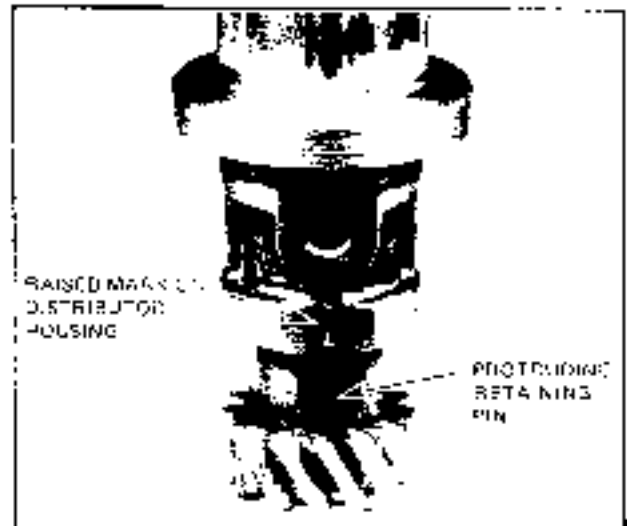

Figure 6D-40
2. Install the distributor into its position. Rotate the body so as the distributor cap clamps are at approximately 45° to the crankshaft centreline. Refer Fig. 6D-41.